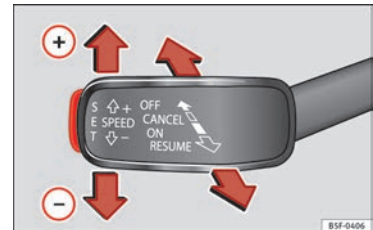

Fig. 50 On the left of the steering column: third lever to operate the CCS.
- Switching on the CCS: move the third lever to **ON** » **Fig. 50**. The system switches on but it does not control the speed as no speed has been programmed.
- Activating the CCS: press the **SET** » **Fig. 50** button. It memorises and maintains the current speed.
- Temporarily switching off the CCS: move the lever to **CANCEL** » **Fig. 50** and release it or
- Reactivating the CCS: move the lever to **RESUME** » **Fig. 50** and release it. The memorised speed is saved and controlled again.
- Switching off the CCS: move the third lever to position **OFF** » **Fig. 50**. The system is disconnected and the memorised speed is deleted.